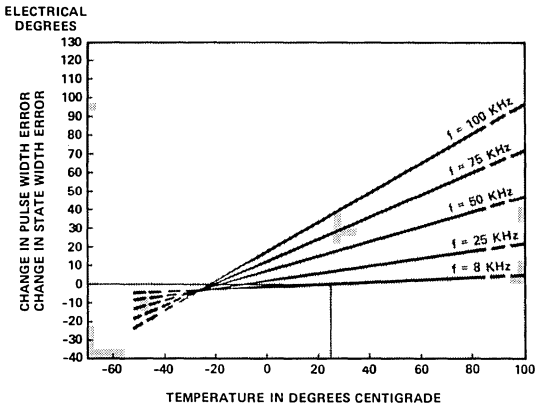

Figure 1. Typical Change in Pulse Width Error or in State Width Error due to Speed and Temperature
- In a properly assembled lot 99% of the units, when run at 25° C and 8 KHz, should exhibit a pulse width error less than 35 electrical degrees, and a state width error less than 45 electrical degrees. To calculate errors at other speeds and temperatures add the values specified in Figures 1 or 2 to the typical values specified under encoding characteristics or to the maximum 99% values specified in this note.